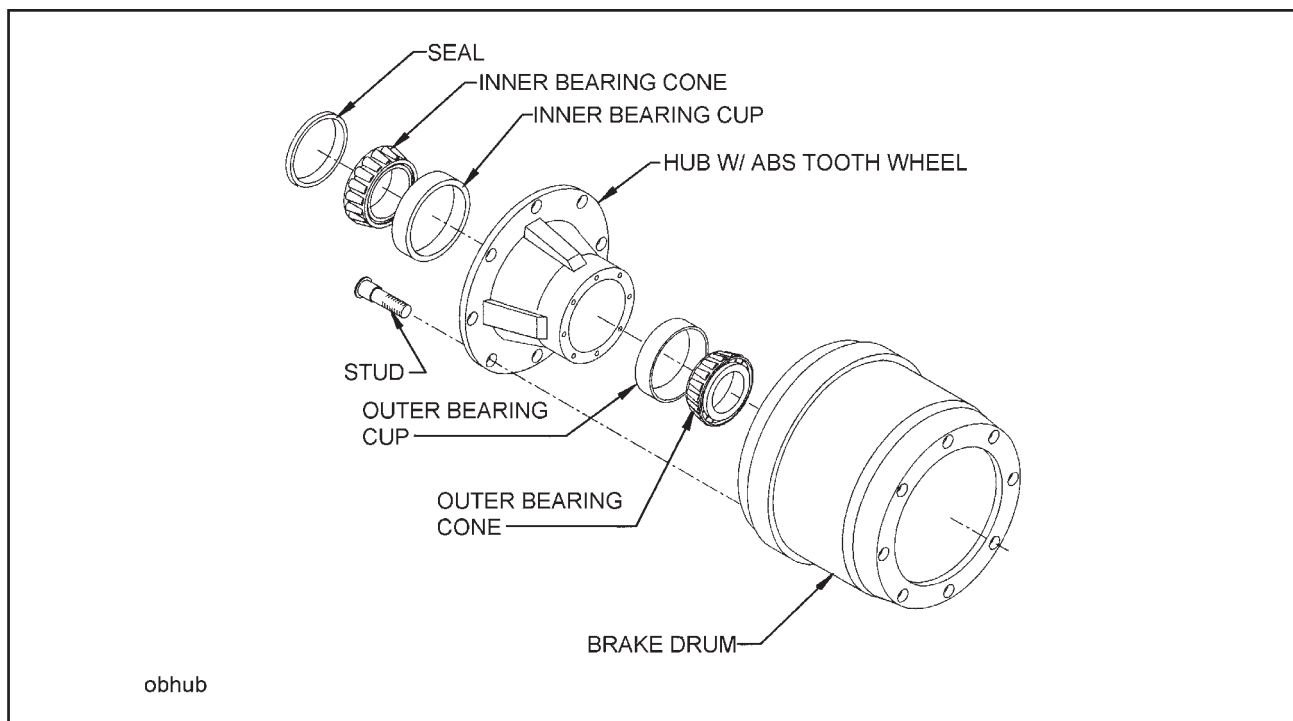

Figure 4-15 Outboard Mount Hub and Drum
3. Remove drum assembly (**See Figure 4-15**).
4-9.4 Replace the hub and drum as follows (**See Figure 4-15**):
- a. Remove the brake drum (**See Figure 4-15**). It may be necessary to release the slack adjuster.
- i. Place the drum over the hub and brake shoes being careful not to damage the threads on the studs (**See Figure 4-15**). Make sure the drum seats flat against the hub flange and mates properly with the hub pilot. There should be no interference between the brake drum pilot chamfer and the corner radius on the hub. If interference exists, the hub will not be able to function properly.